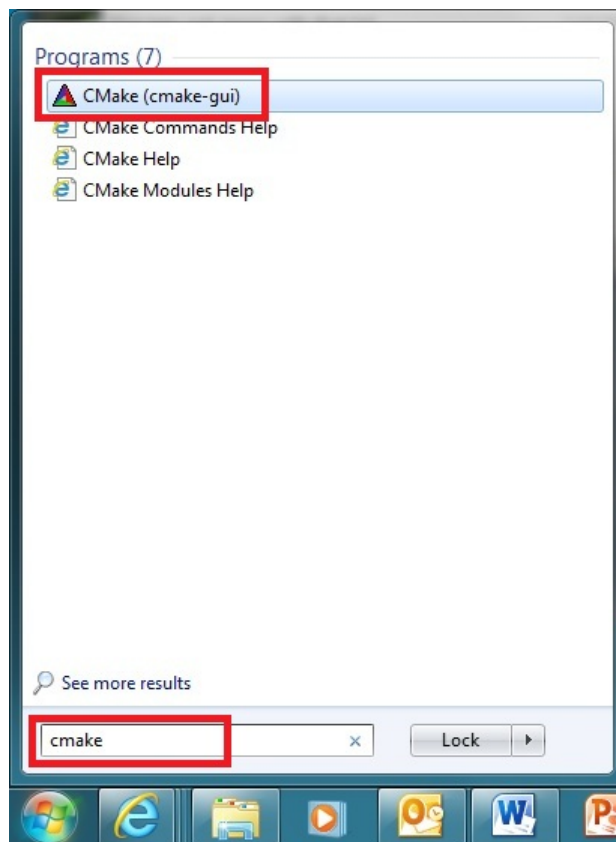

Figure 4-20. Cmake GUI Execution From Windows Start Button
- Search for, and run, the Cmake GUI that was installed in the previous step, an example of finding it is shown in Figure 4-20.